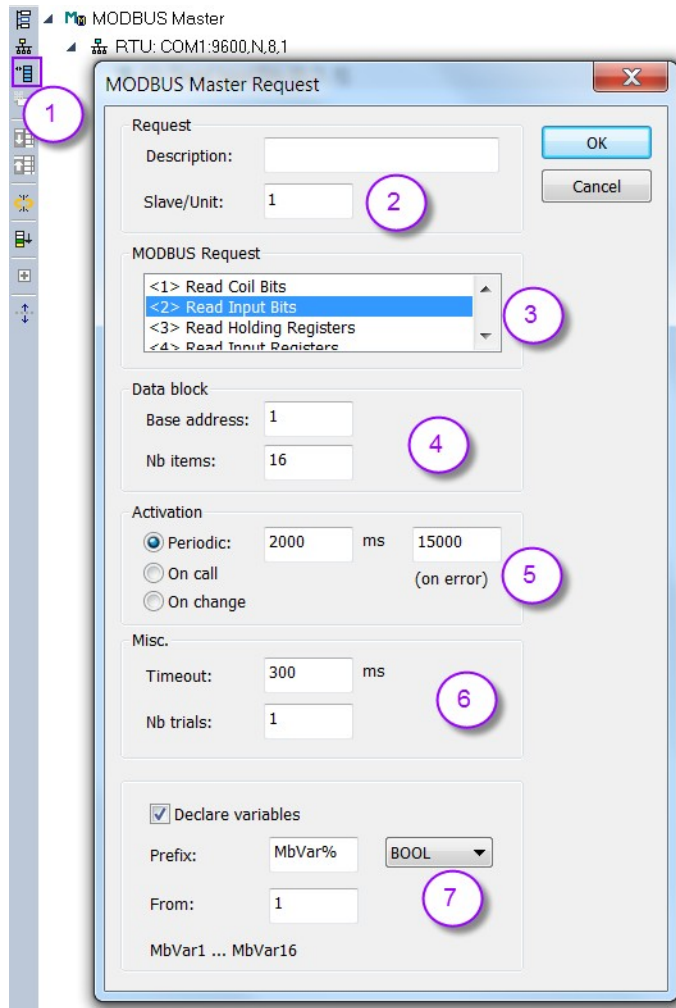

Figure 147: Modbus Master data block setting
Figure 147 creates a input data block which holds 16 input bits and start reading from the slave discrete input table at address 1.
12. **Declare variables:** This option allows the user to declare new variables and automatically map them to the Modbus master data block. Enter a variable name and add the symbol '%' at the end of the name and enter the start number for the '%' symbol. The workbench replace the '%' with a number which increases incrementally for each new variable as indicated at the bottom of the window (Figure 147). The new variables are automatically mapped to the Modbus master data block (Figure 148). Disable this option if variables has already been declared in the variable editor. In this case the variables have to be mapped manually by dragging the variable from the variable editor and dropping it to the mapping area.
- Step 4:** This step needs only to be done if the 'Declare variable' option (Figure 147) has not been selected. Declare and map variables to the master data block:
Step 5: This step has only to be done if the 'On call' checkbox has been selected (No. 5 in Figure 147). If the master is in the 'On call' mode the Win-GRAF runtime does not automatically send a request to the slave. The logic program of the PLC has to trigger a request. Two command types are available to initiate a request: